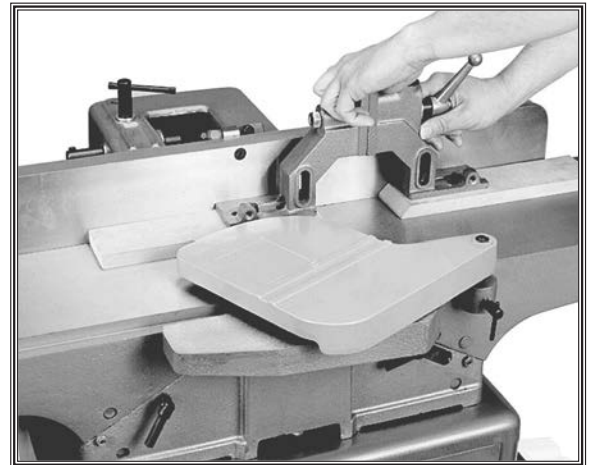

Figure 47. Resurfacing a shaper fence on a jointer.
3. Resurface the fences on the jointer, as shown in **Figure 47**.